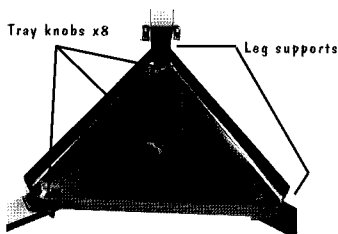

Fig.4 Accessory tray located mid way down on the tripod.
2. You should now attach the accessory tray to the leg supports. Place the tray on the supports, lining up the corresponding holes (**Fig.4**). Then place the screws up through the holes and tighten using the knobs. The longest of the four screws is to be used in the centre hole. The tray acts as an accessory tray as well as strengthening the tripod itself.